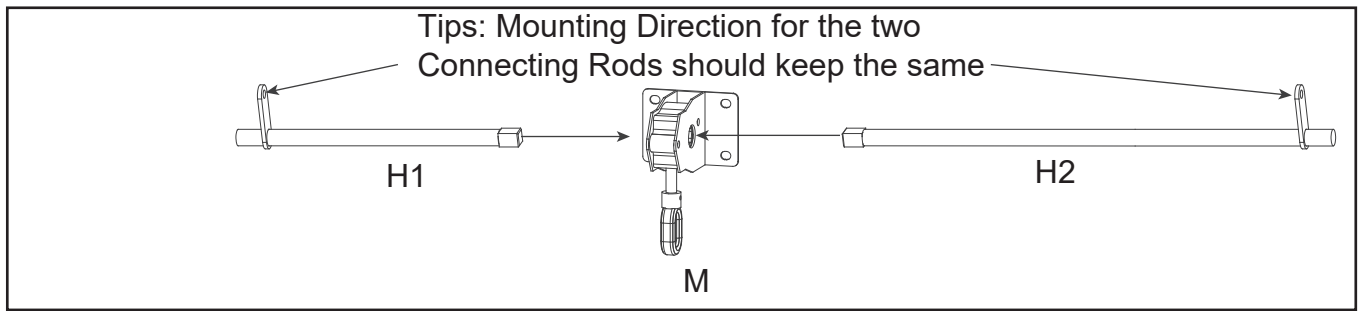

Figure 9.1
9. Insert one side of the two Connecting Rods (H1/H2) into the Spinner (M), then attach the Spinner (M) to the Rear Lintel (F1/F2) and secure it with the Bolts (AA) and Washers (HH). Finally the other end of the Connecting Rods (H1/H2) is attached to the Lintels (B/C/E) using Bolts (CC), Washers (GG/HH) and Nuts (FF). See Figure 9.1- 9.3.